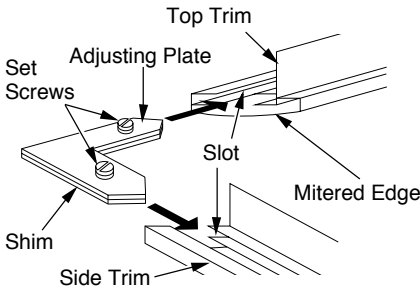

Figure 13 - Assembling Trim
3. Align shim under adjusting plate as shown in Figure 13.
4. Slide one end of adjusting plate/shim in slot on mitered edge of top trim (see Figure 13).
5. Slide other end of adjusting plate/shim in slot on mitered edge of side trim (see Figure 13).